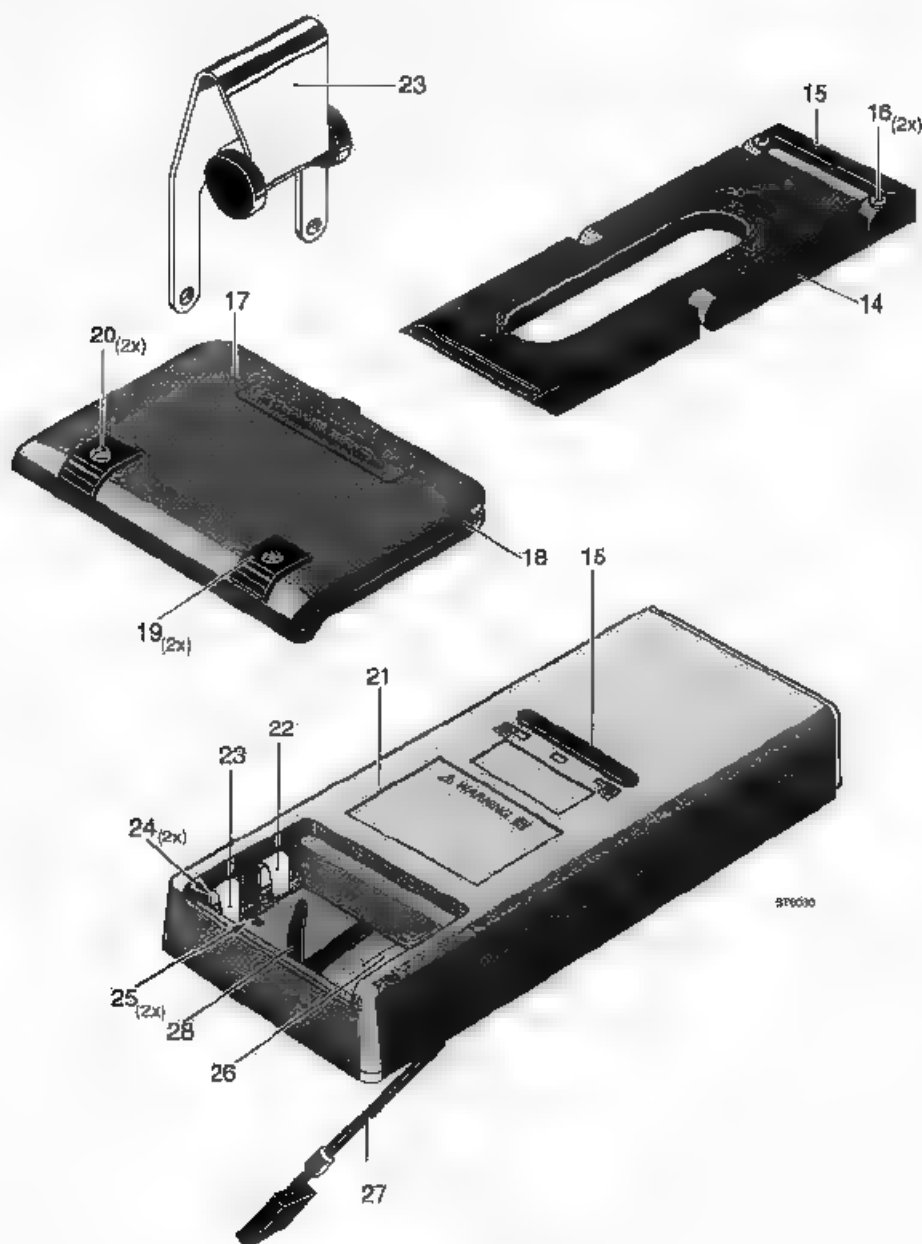

Figure 7.10 Replacing parts in battery compartment
Referring to figures 7.10 and 7.13, use the following procedure for replacing the battery wiring and battery contacts.
4. Bend the solder tags of the battery contacts (figure 7.10, item 23) in the bottom cover in such way that the contacts can be pulled out of the battery compartment.
5. Pull the battery contacts (figure 7.5, items 22 and 23) and the black buffers (figure 7.10, item 24) out of the battery compartment with a pair of tweezers.
**NOTE:** The extra black plastic buffers in two battery contacts (see figure 7.10, item 23) prevent erroneous charging of the battery. Mount these battery contacts in the correct position!
3. Bend the solder lugs of the contacts (figure 7.10, items 25 and 26) in the bottom cover so that the contacts can be pulled from the battery compartment.
Referring to figure 7.10, use the following procedure for stand replacement.
1. The stand is secured to the ScopeMeter with two black M3 Torx screws (figure 7.10, item 16). Use a Torx screwdriver to loosen the two screws.
1. Remove the stand assembly (figure 7.10, item 15).
2. The black M3 Torx screws are of a captured type (item 16). Remove screws by unscrewing them with a Torx screwdriver. Add a little pressure with another small screwdriver at the back of the screw.